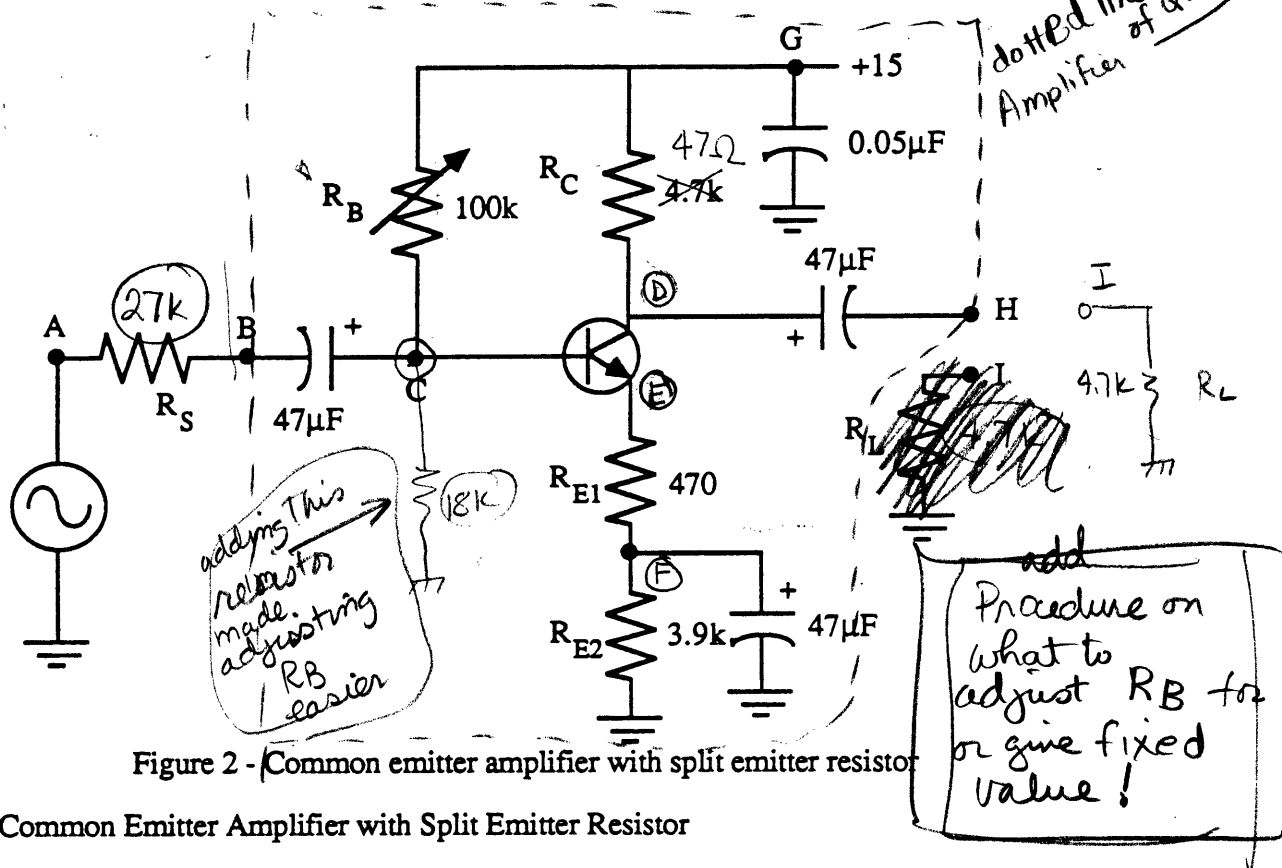

Figure 2 - Common emitter amplifier with split emitter resistor
- (1) Build the circuit shown in Fig.2. Points A and B should be shorted together and points H and I should not be connected to anything. Connect the scope CH1 input to point A.
- ~~(2) Adjust the signal generator for a 0.5 Vp-p 10 KHz triangle wave with zero DC offset.~~ *0 volts ac. 0 volts dc output.*
- (3) Use the DMM to measure the exact DC voltages at points C, D, E, F, and G. Record your measurements in Table 9.5.
- (4) Increase the generator's AC amplitude so that signal at point A is approximately *the* 0.5 Vp-p.
- (5) Measure the exact rms and peak-to-peak voltages at points A, C, E, F, and H. Record your results in Table 9.5.
- (6) Connect points H and I together and measure the new rms and peak-to-peak voltage at point H.
- (7) Remove the short circuits between points A and B and points H and I.
- (8) Measure the new RMS and peak-to-peak voltages at point H.
- (9) Record the maximum and minimum voltages at point D (the waveform peaks) for signals at point A of 1 V_{p-p} , 2 V_{p-p} , 3 V_{p-p} , and 4 V_{p-p} . Record these waveforms in Table 9.6-9.8.
3. Your "amplifier" is defined by the dotted line in Fig.2. part 3